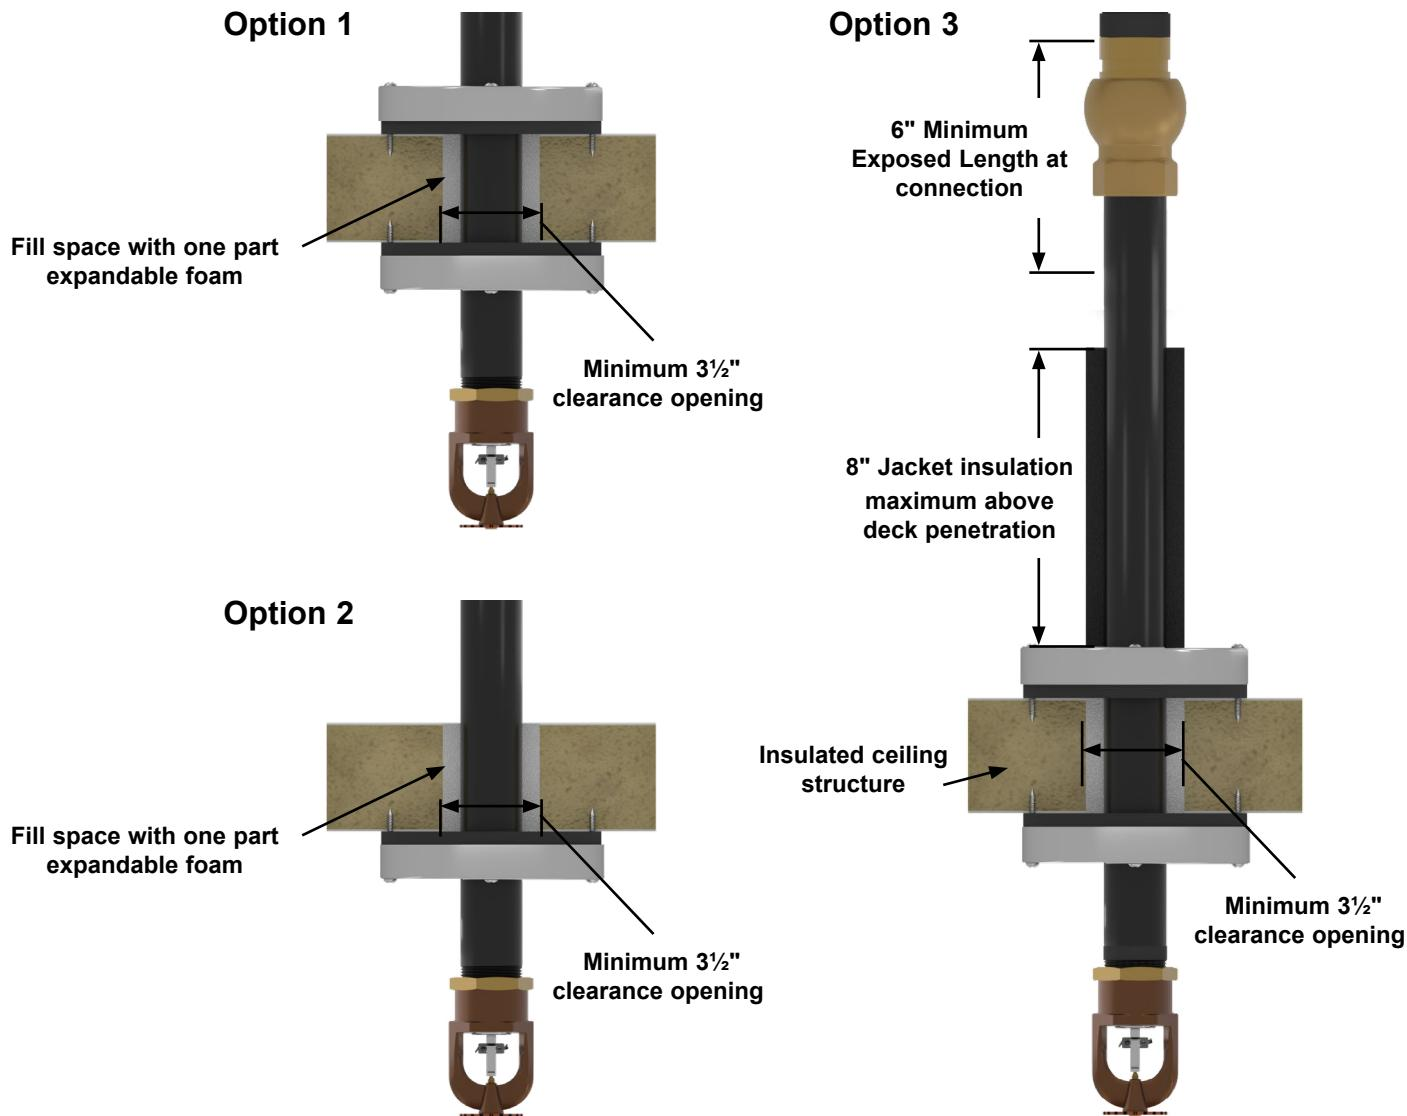

Figure 3: Recommended Sealing Methods
8. Carefully pull apart the rubber rings (A) to install onto the barrel.
9. Place the 2 halves of the seal casing (B) on either side of the barrel and hold in place, then install and tighten the screws (C).
**NOTICE: Specific situations and conditions may exist that require alternative sealing methods. A few of these methods are shown in Figure 3. Additional sealing methods may also be used; however, the material(s) used must not break down, drip, over-spray, or otherwise interfere with or impede the operation of the sprinkler—especially during fire conditions.**